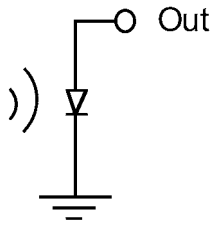

Figure 2
2) The circuit in Fig. 2 uses a silicon photodiode to detect the light from the LED. This diode has the property that it generates a current which is proportional to the incident light falling on it. The simplest, and sometimes the most sensitive way of using a photodiode is to measure the voltage developed across it by the incident light. Connect the photodiode directly to the scope probe, and point it at the LED. Be sure to keep the photodiode far enough away from the LED so that the signal does not exceed a few tenths of a volt - otherwise the forward turn-on characteristics of the photodiode may distort the signal. *Sketch the output across the photodiode. How does the signal you observe with the photodiode compare with the original signal driving the LED?* Increase the frequency of the signal generator to about 1 kHz. Does the signal you observe still have the same characteristics as observed at the lower frequency? *At what frequency does the LED seem to stop blinking, even though the wave form on the scope shows that it still is?*
The background light from the room is also detected by the photodiode. This may change its operating point, and therefore the gain of the circuit in Fig. 2. In addition, since the room lights may be modulated, the background light can cause an unwanted ac signal. *What happens to the signal as you shield the photodiode from the room lights?*